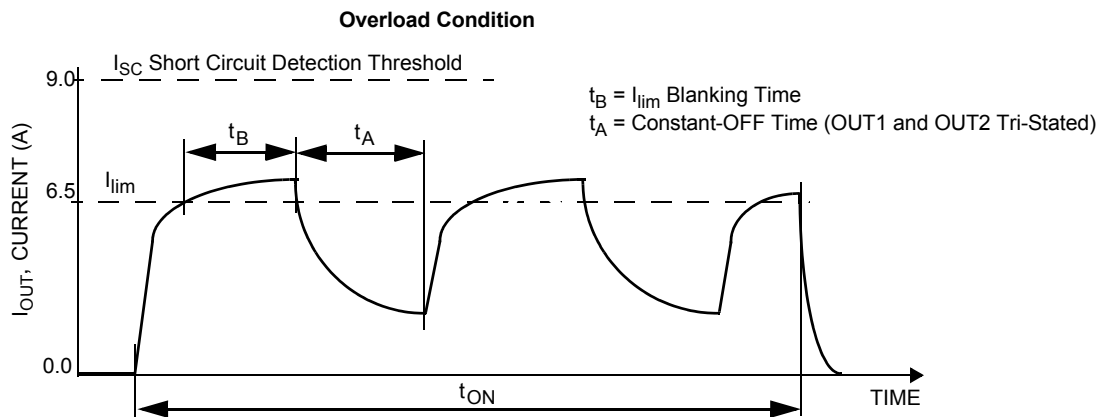
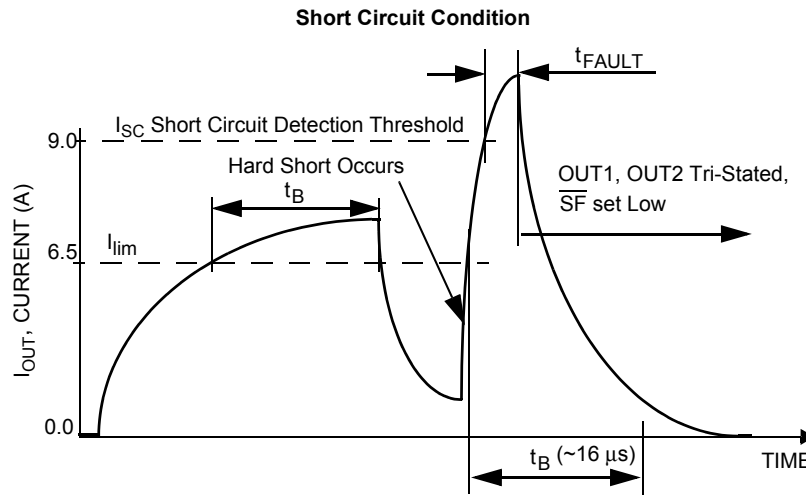
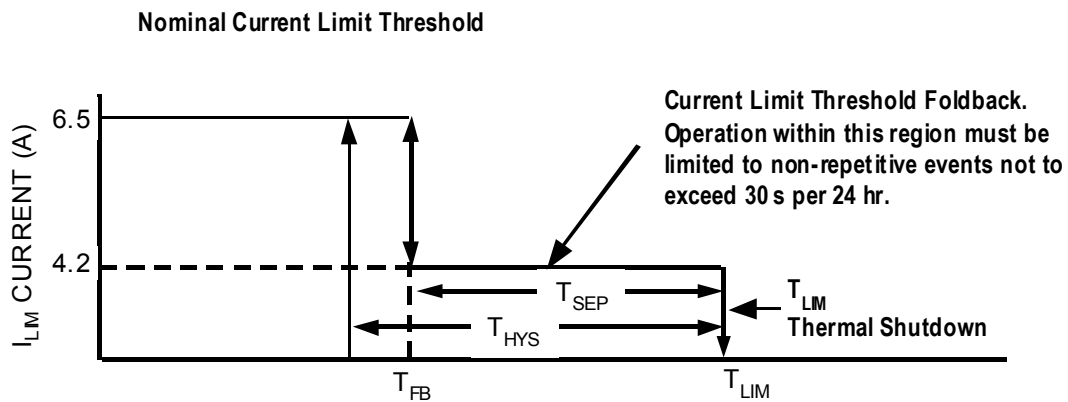

Figure 7. Current Limit Blanking Time and Constant-OFF Time
Figure 8. Short-circuit Detection Turn-OFF Time  $t_{FAULT}$
Figure 9. Output Current Limiting Foldback Region
| Output Current Regulation Threshold$T_J < T_{FB}$$T_J \geq T_{FB}$ (Fold back Region - see Figure 9 and Figure 11) (14)                                                                                              | $I_{LIM}$              | 5.2–    | 6.54.2    | 8.0–        | A                |
28. Load currents ramping up to the current regulation threshold become limited at the  $I_{\text{LIM}}$  value (see Figure 7). The short-circuit currents possess a  $di/dt$  that ramps up to the  $I_{\text{SCH}}$  or  $I_{\text{SCL}}$  threshold during the  $I_{\text{LIM}}$  blanking time, registering as a short-circuit event detection and causing the shutdown circuitry to force the output into an immediate tri-state latch-OFF (see Figure 8). Operation in Current Limit mode may cause junction temperatures to rise. Junction temperatures above  $\sim 160^\circ\text{C}$  will cause the output current limit threshold to “fold back”, or decrease, until  $\sim 175^\circ\text{C}$  is reached, after which the  $T_{\text{LIM}}$  thermal latch-OFF will occur. Permissible operation within this fold back region is limited to non-repetitive transient events of duration not to exceed 30 seconds (see Figure 9).